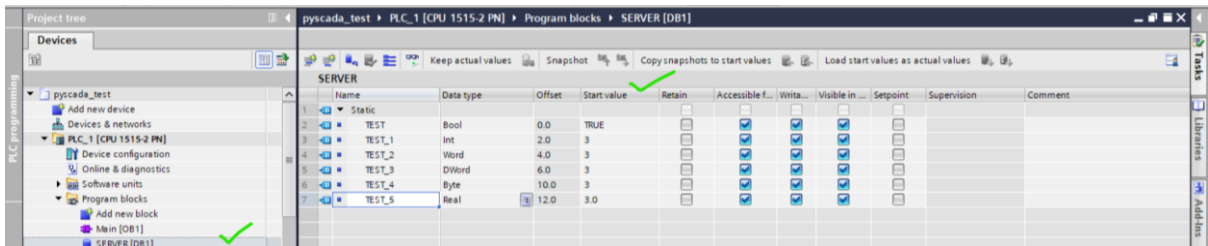

Fig:4
3. Create various tags based on various node data types such as String, Boolean, INT, Word, Byte with start value of 1 or 2 and add it to your Program Blocks module, In the Access level Enable - Read/Write - RD/WR for all nodes(fig:4)